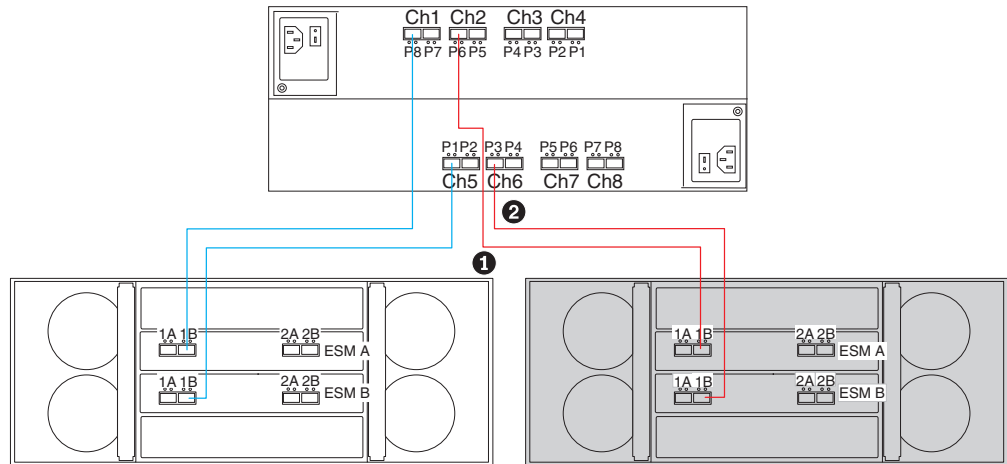
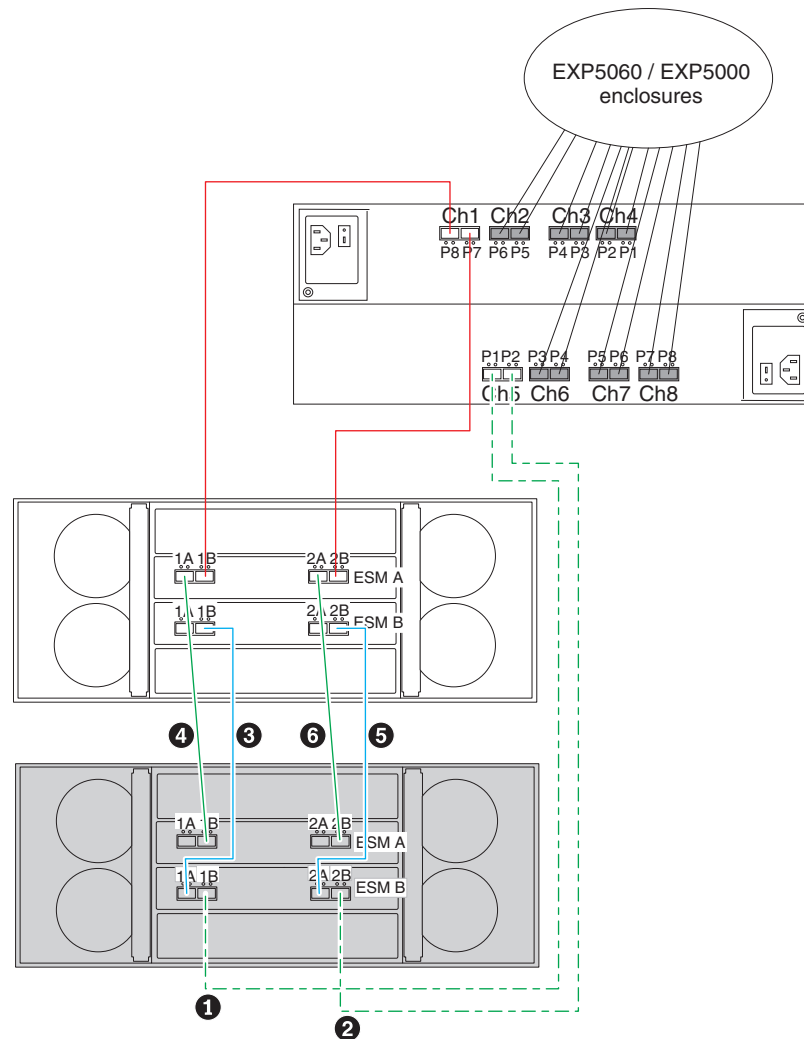

Figure 43. Adding the EXP5060 to a new drive channel (non-trunking cabling scheme)
Figure 45. Cascading the EXP5060 behind another EXP5060 (trunking cabling scheme)
- If there are available non-device connected drive channels in each of the controllers, add the EXP5060 to the controller drive channel pair using the even-numbered port of the dual-port drive channel in controller A and the odd-numbered port of the dual-port drive channel in controller B. See Figure 43 on page 86.
- If there are no unconnected drive channel ports in the controller, cascade the EXP5060 behind an existing EXP5060 as shown in Figure 45 on page 87.
4. Cable the EXP5060(s) to the existing DS subsystem configuration using one of the cabling scenarios described in this section as shown in Figure 43 on page 86 to Figure 45. Make the cabling connections in the order shown in the figures using a number in a circle with black background format. If there are multiple enclosures to be added, perform the cabling changes to add only one enclosure at a time.
**Note:** In Figure 45 on page 87, the connections labeled 1 and 2 indicate moving the existing connections from the controller drive ports to port 2B of the existing enclosure to port 2B of the new enclosure.